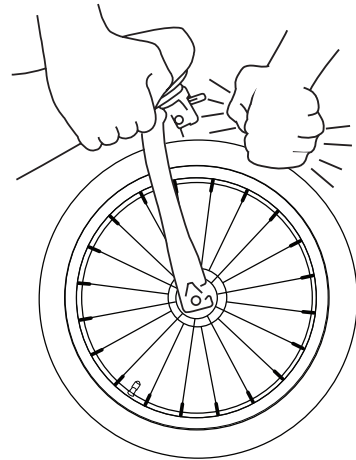

Fig. 1D
4. Lift the front wheel off of the ground and sharply strike the top of the tire (Fig. 1D). The wheel should not be loose or come off.